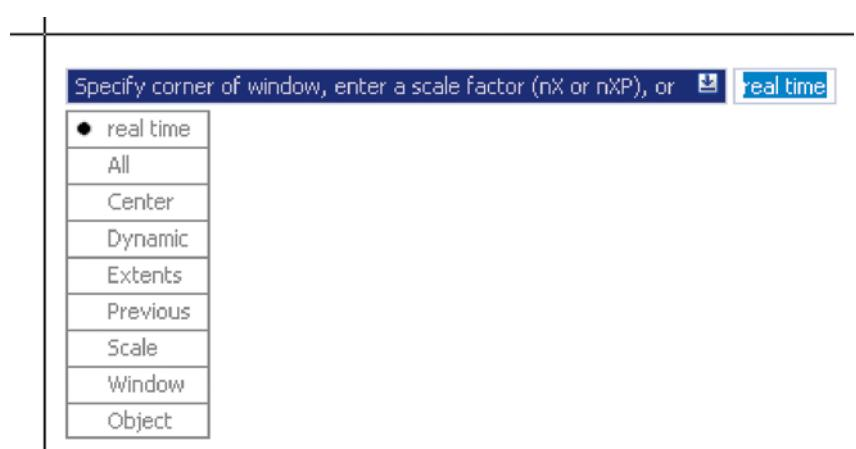

Fig. 3.35 Dynamic Input – second example – Zoom – the pop-up menu appearing with a right-click and pressing the **down** keyboard button
2. Right-click and press the **down** button of the keyboard. The pop-up list Fig. 3.35 appears from which a **Zoom** prompt can be selected.